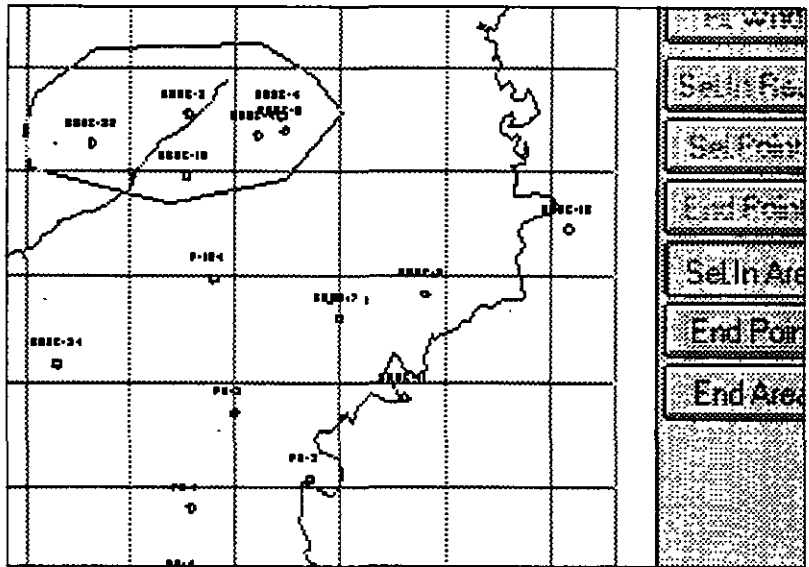

Figure 5-20
Figures 5-20 and 5-21 display the selection process using free hand drawing of an area around wells to be selected. In this case the following steps are made.
4. The map named 'BASIC-LOG' is transferred into the upper window and selected by clicking **OK**. The display is as shown in Figure 5-20 without the contoured area.